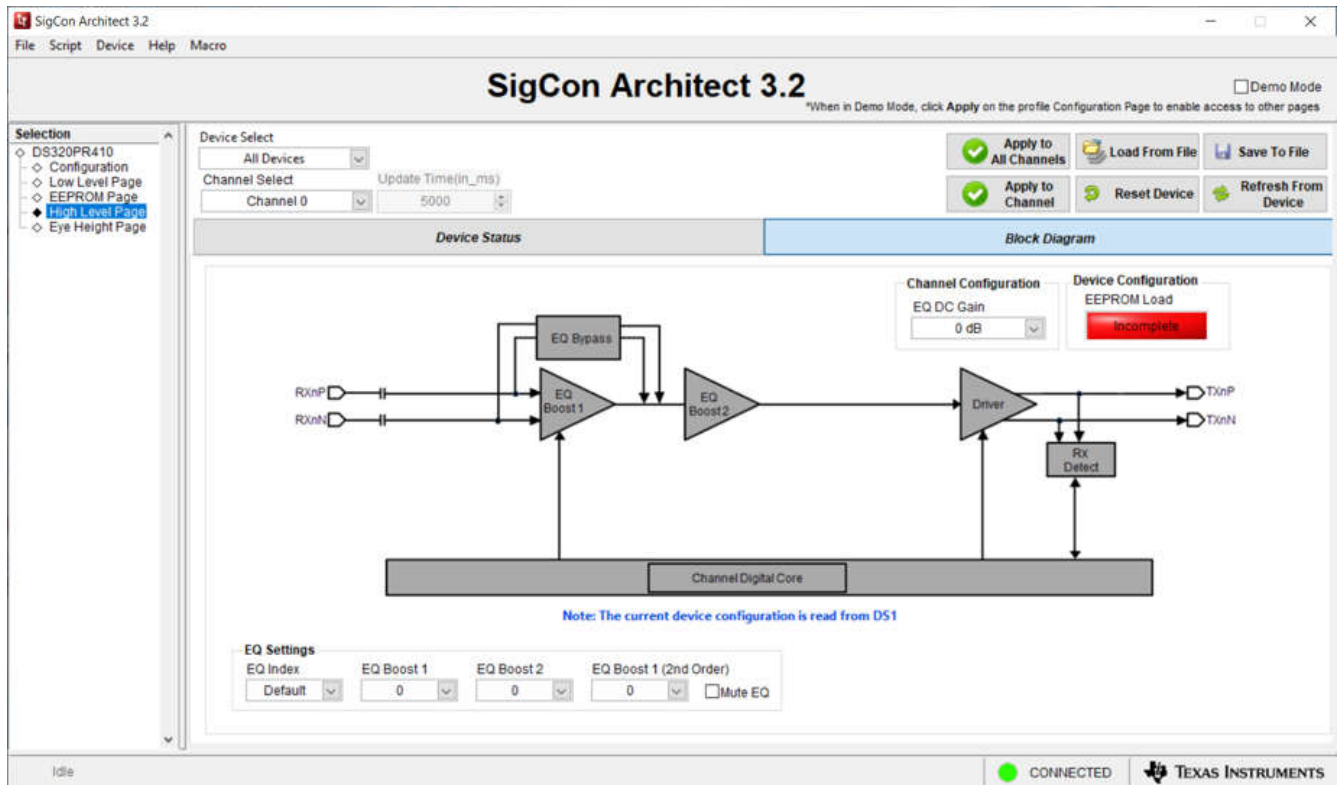

Figure 2-1. SigCon Architect DS320PR410 High-Level Page
13. In the DS320PR410 High Level Page, select *Block Diagram* as shown in Figure 2-1.